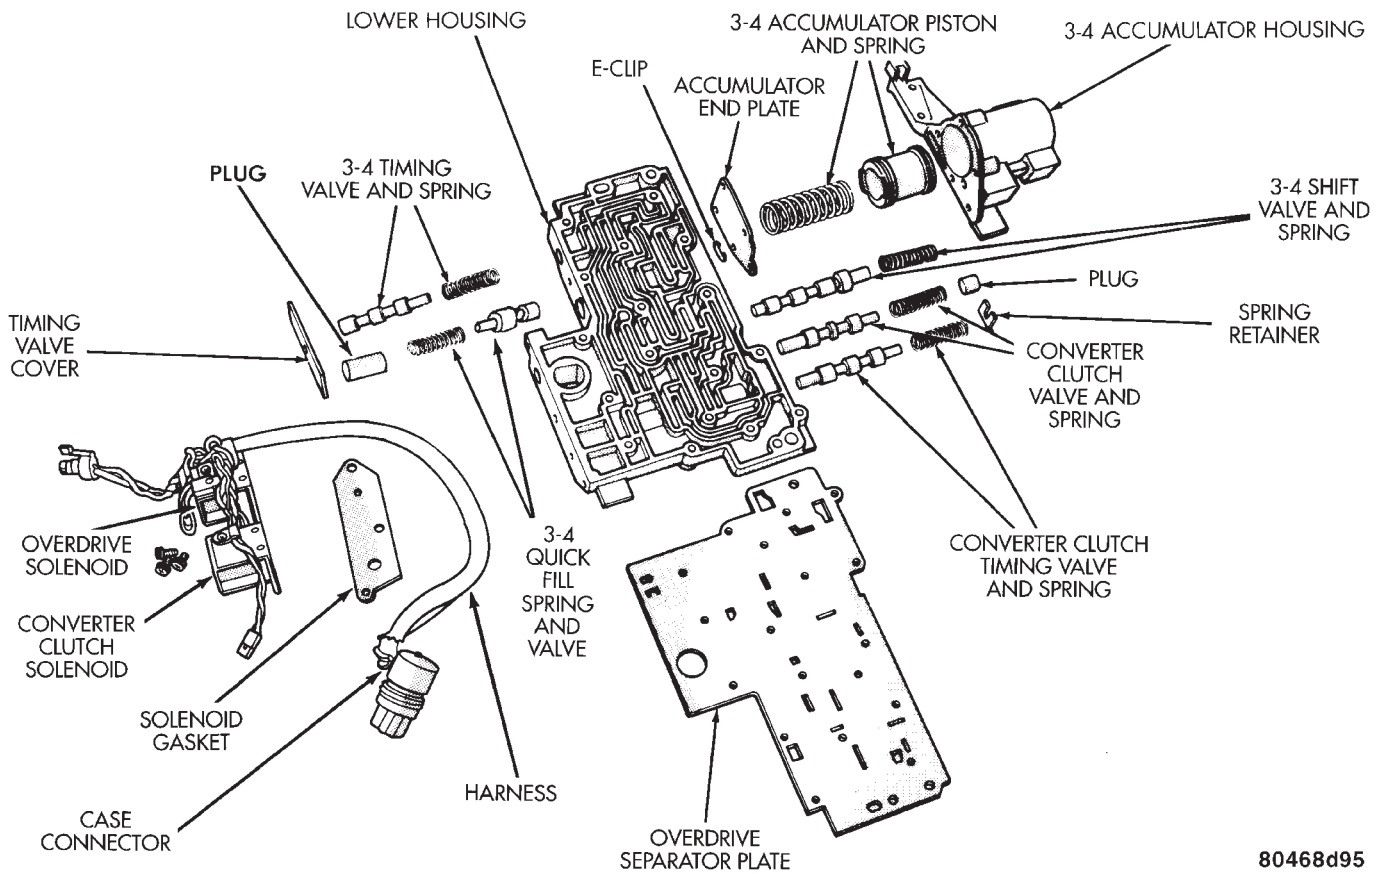

Fig. 76 Lower Housing Shift Valves And Springs
- (1) Remove timing valve cover.
- (2) Remove 3-4 timing valve and spring.
- (3) Remove 3-4 quick fill valve, spring and plug.
- (4) Remove 3-4 shift valve and spring.
- (5) Remove converter clutch valve, spring and plug (Fig. 76).
- (6) Remove converter clutch timing valve, retainer and valve spring.
(1) Lubricate valves, springs, and the housing valve and plug bores with clean transmission fluid (Fig. 76).
(2) Install 3-4 timing valve spring and valve in lower housing.
(3) Install 3-4 quick fill valve in lower housing.
(4) Install 3-4 quick fill valve spring and plug in housing.
(5) Install timing valve end plate. Tighten end plate screws to 4 N·m (35 in. lbs.) torque.